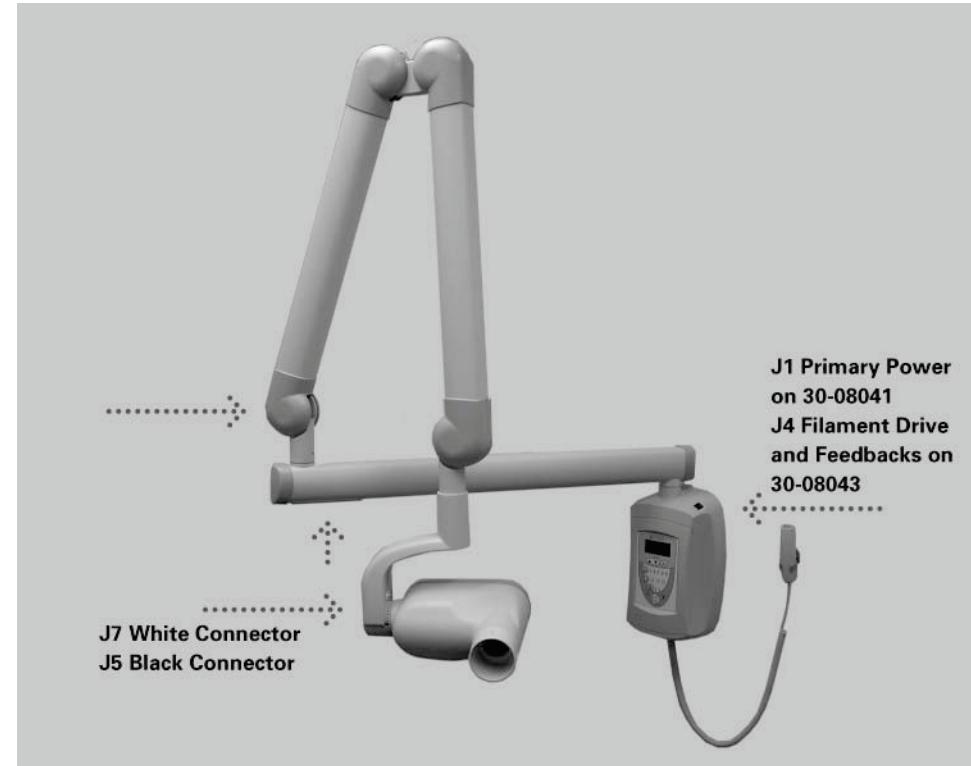

Figure 51
5. Check the condition of the cables between the Control Unit and the Tubehead assembly. If no x-ray occurs and no errors are displayed, the problem may lie within the conductors of the white connector (which is primary power to the Tubehead Assembly). If no x-ray occurs and the attempt is accompanied by a "snap" sound, the problem may lie with the conductors of the black connector (which is transmitting the feedback signals). Connections for this cable begin with controls at J1 of the Power Supply Board and J3 of the Logic Board. As shown in Figure 51, an internal set of connections will be accessed below the distal side of the horizontal arm and at the inside top of the Tubehead Yoke. The final set of connections is accessed by removing the Pivot Cap located at the attachment point of the Tubehead to the Yoke.
5. If these voltages are present, measure for the same values at the Tubehead Assembly at the connector J5 (black) on the blue and gray conductors and the blue and brown conductors. If the voltages are not present, inspect the inter-connect cables between the control and Tubehead Assembly. Connections for this cable begin with controls at J1 of the Power Supply Board and J3 of the Logic Board. As shown in **Figure 51**, an internal set of connections will be accessed below the distal side of the horizontal arm and at the inside top of the Tubehead Yoke. The final set of connections is accessed by removing the Pivot Cap located at the attachment point of the Tubehead to the Yoke.
Of particular importance are the conductors held by the black connectors. These conductors transmit the feedback values from the Tubehead Assembly and directly affect the control of power to the Tubehead Assembly. Connections for this cable begin with controls at J1 of the Power Supply Board and J4 of the Logic Board. As shown in Figure 51, an internal set of connections will be accessed below the distal side of the horizontal arm and at the inside top of the Tubehead Yoke. The final set of connections is accessed by removing the Pivot Cap located at the attachment point of the Tubehead to the Yoke.